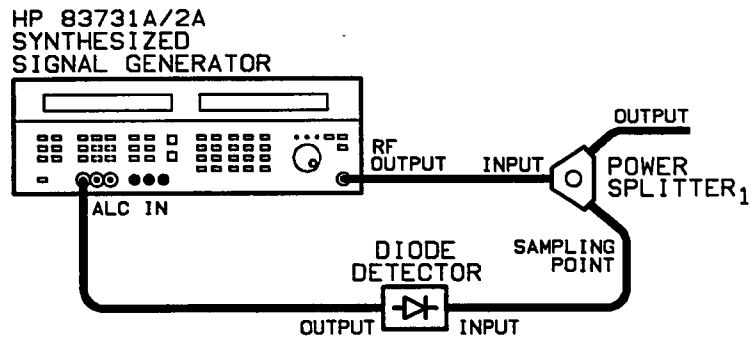

Figure 3-15. External Diode Detector Leveling Setup
1. Connect the equipment as shown in Figure 3-15: